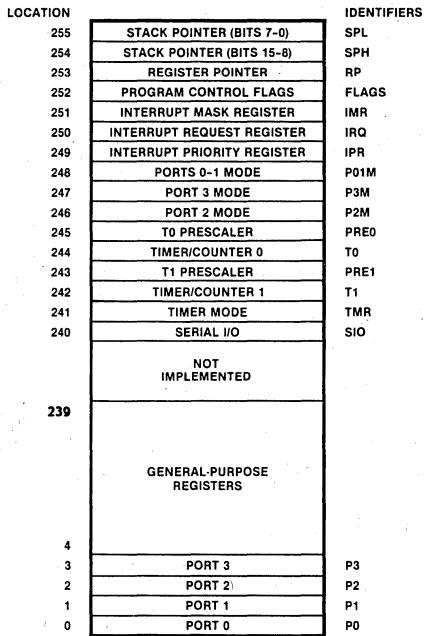
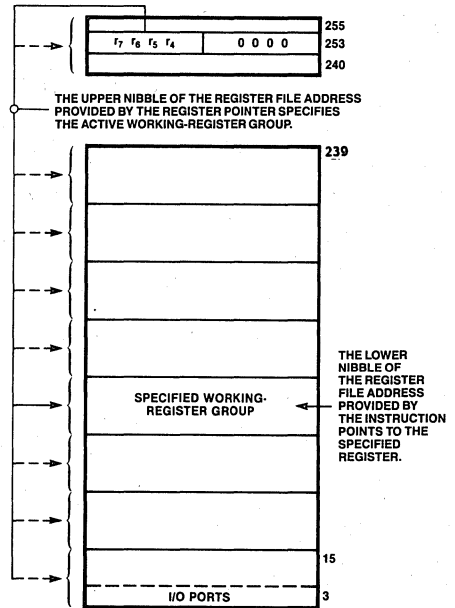

Figure 6. The Register File
Figure 7. The Register Pointer
These registers are assigned the address locations shown in Figure 6.
**Z86C21 instructions can access registers directly or indirectly with an 8-bit address field. The Z86C21 also allows short 4-bit register addressing using the Register Pointer (one of the control registers). In the 4-bit mode, the register file is divided into 16 working register groups, each occupying 16 contiguous locations (Figure 6). The Register Pointer addresses the starting location of the active working-register group (Figure 7). Note: Register Bank E0-EF can only be accessed through working register and indirect addressing mode.**